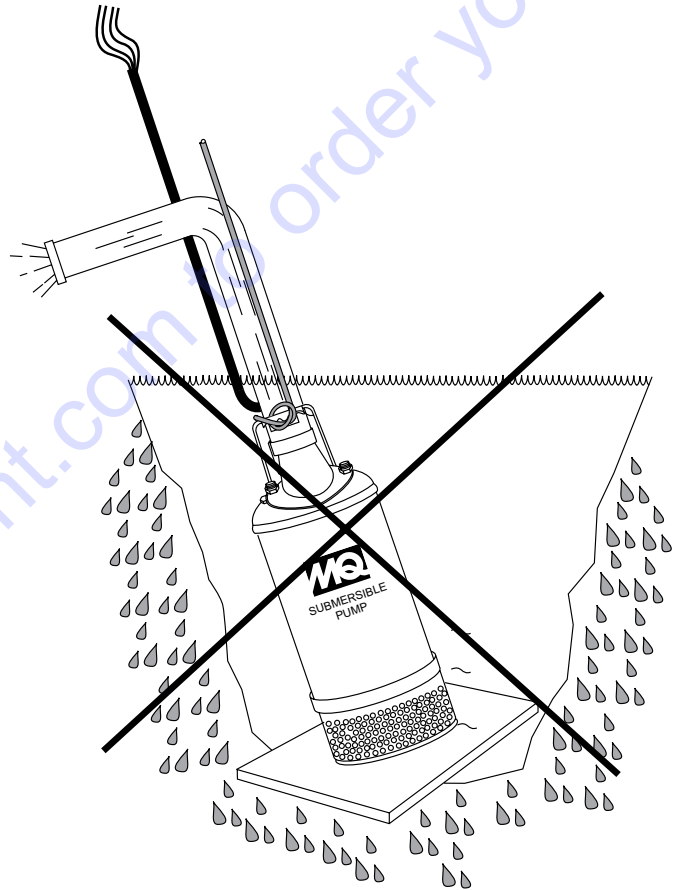

Figure 19. Submersible Pump Upright Position (Incorrect)
2. Make sure the pump is always placed in an upright position, not tilted (Figure 19). Never position the pump directly on a soft, loose bottom. Remember to attain maximum pumping capacity and prevent excessive wear, position the pump so it will not burrow itself into sand or clay.